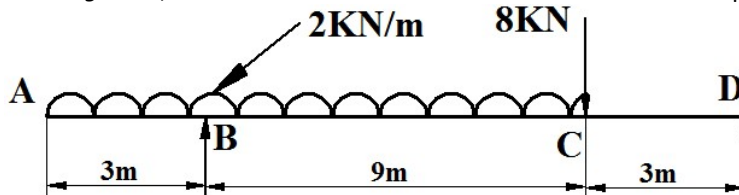

Figure 19
9. Draw the beam shown in Figure 19, draw SFD & BMD and mark the values at the salient points.